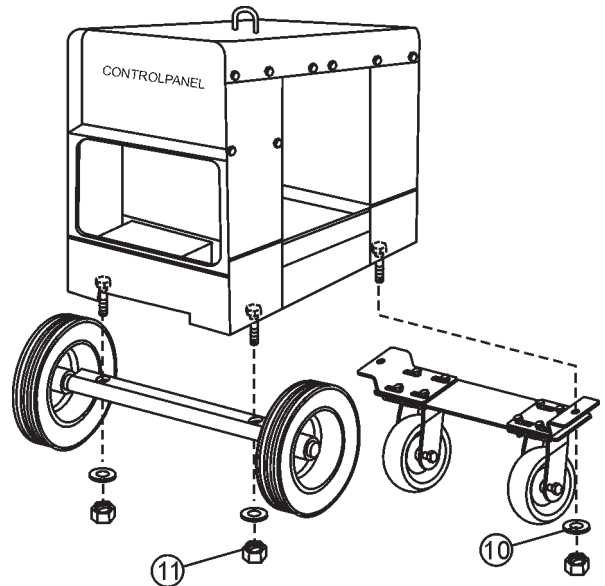

Figure 13. Securing Stationary Axle and Caster Wheel Assembly to Cabinet
- With the stationary axle facing front, lift the axle up so the bolts in the cabinet floor pass through the bolt holes on the axle. Place a washer on the bolt under the axle and secure the axle to the cabinet with a nut (Figure 13).
- Center the caster wheel assembly underneath the machine. Lift the caster wheels up so the bolts in the cabinet floor pass through the bolt holes on the caster wheel frame. Place a washer on the bolt under the castor wheel frame and secure the castor wheels to the cabinet with a nut (Figure 13).